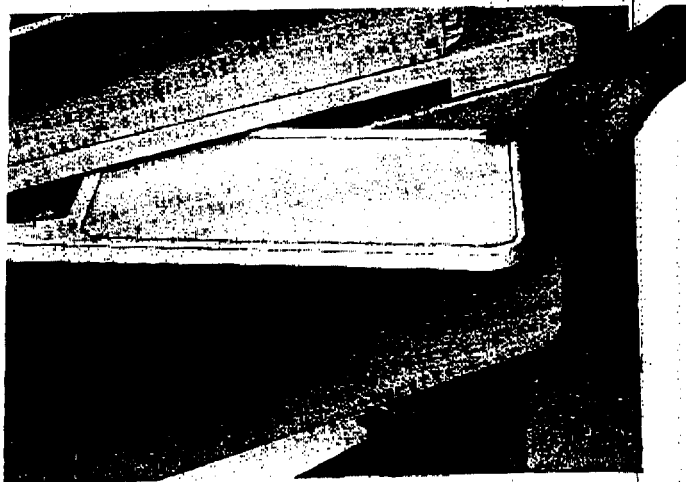

FIGURE 4.11 CHECKING THE INSTRUMENT TRAY
7. **CHECK THE INSTRUMENT TRAY (ACCESSORY)** (Figure 4.11) by swinging it out from under the Bassinet.